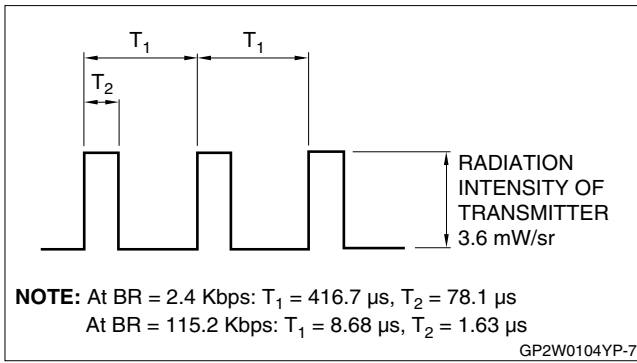

Figure 7. Input Signal Waveform (Detector Side)
3. See Figures 7, 8, and 9.
4. $I_{OL} = 400$ μ A. See Figures 7, 8, and 9.
5. BR = 115.2 kbps, $\phi \leq 15^\circ$. See Figures 7, 8, and 9.